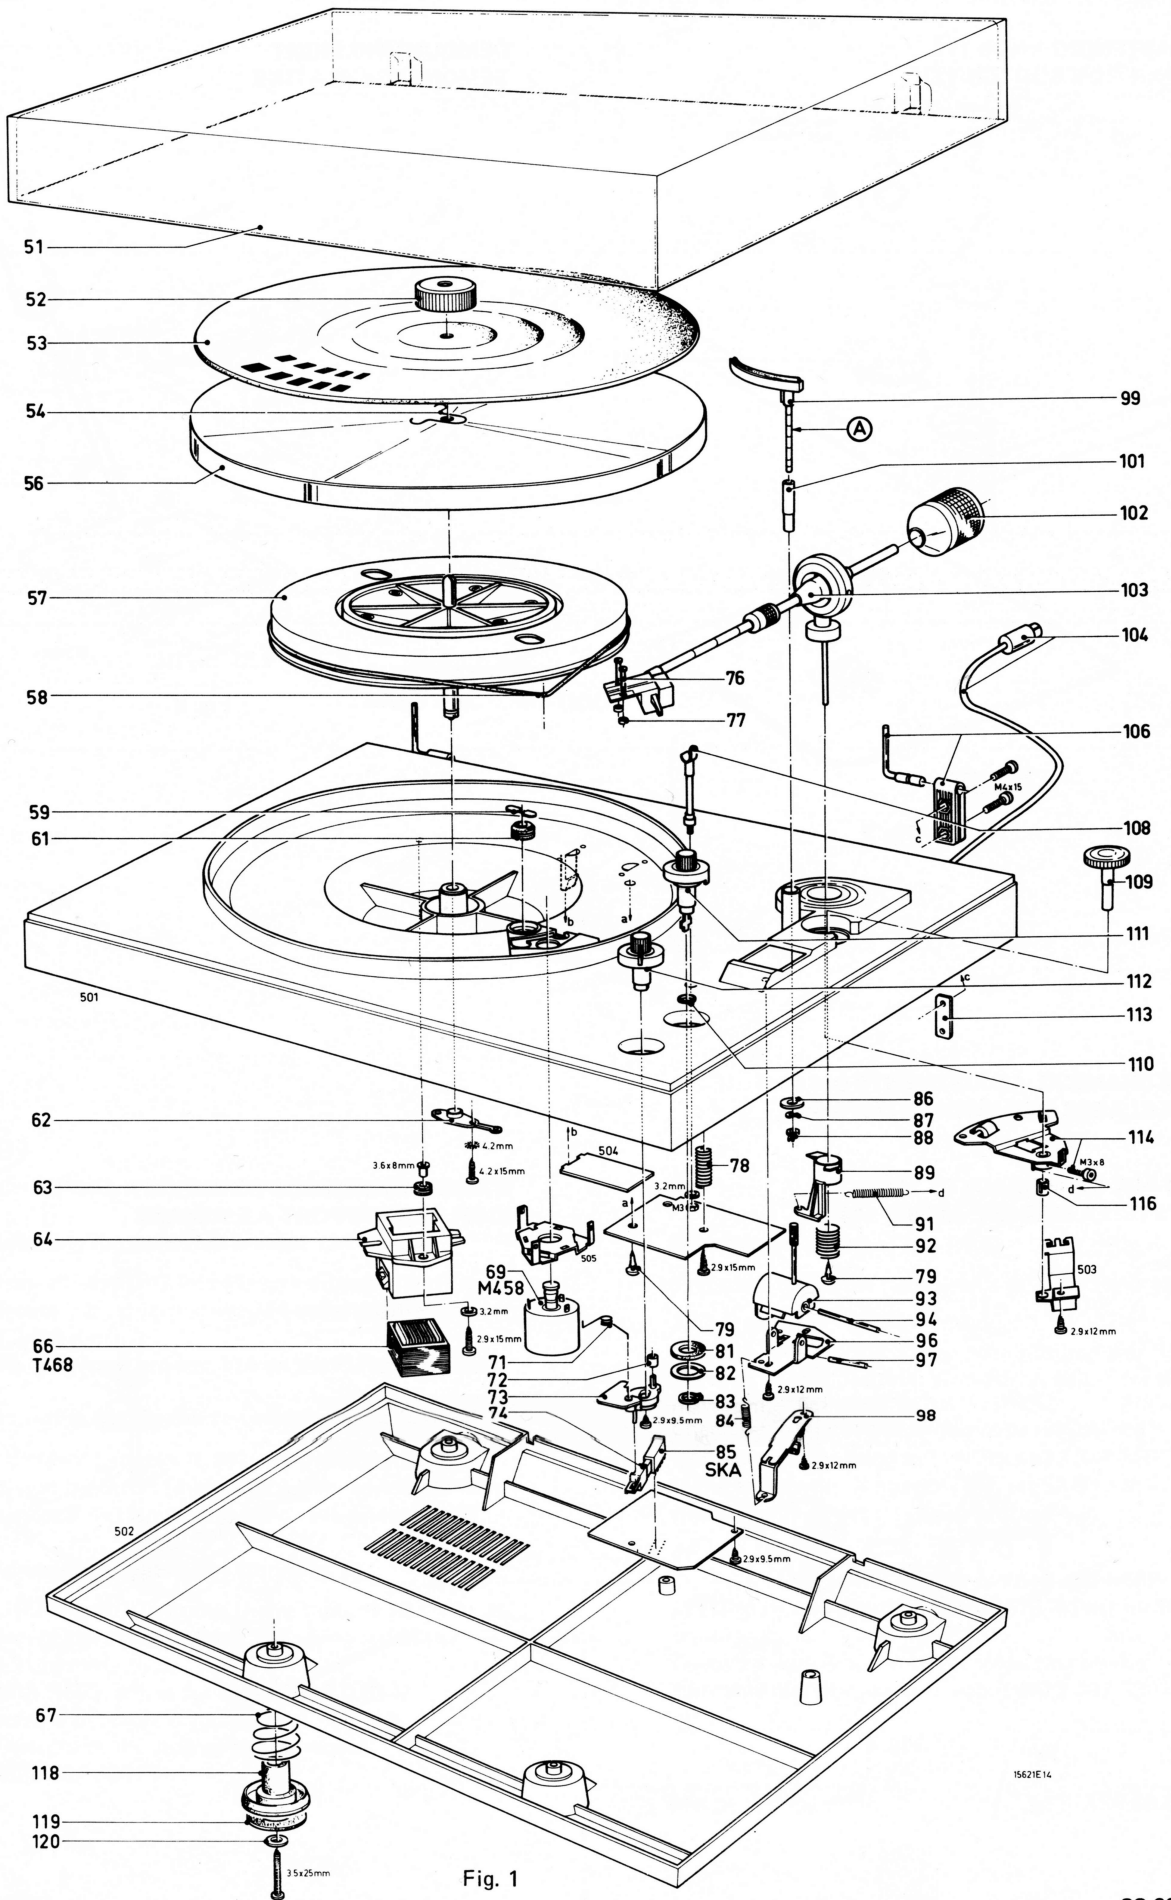

Fig. 1
- A. Place PU-arm 103 into PU-arm support 108 (Fig. 1)
- A. Lift PU-arm 103 from PU-arm support 108 (Fig. 1).
4. Adjusting the speeds (Figs. 1,8,9)